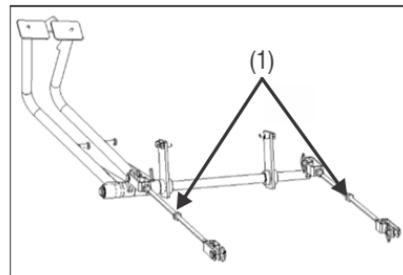

Fig.5.53
4. Unscrew the check nut (1) (Fig.5.53). Slowly, tighten the adjuster (1) (Fig.5.53) until you can no longer turn the wheel by hand.
5. Make a reference mark on the adjuster nut (Fig.5.53) and on the support, then slacken off the adjuster nut by 1 turn, i.e. until the wheel can be freely turned.
6. Now lock the adjuster with the relative check nut (1) (Fig. 5.53). Check that the brake pedal has a free travel of 15-20mm and repeat the adjustment if necessary.
7. Repeat the same procedure for the other side (Fig. 5.53).